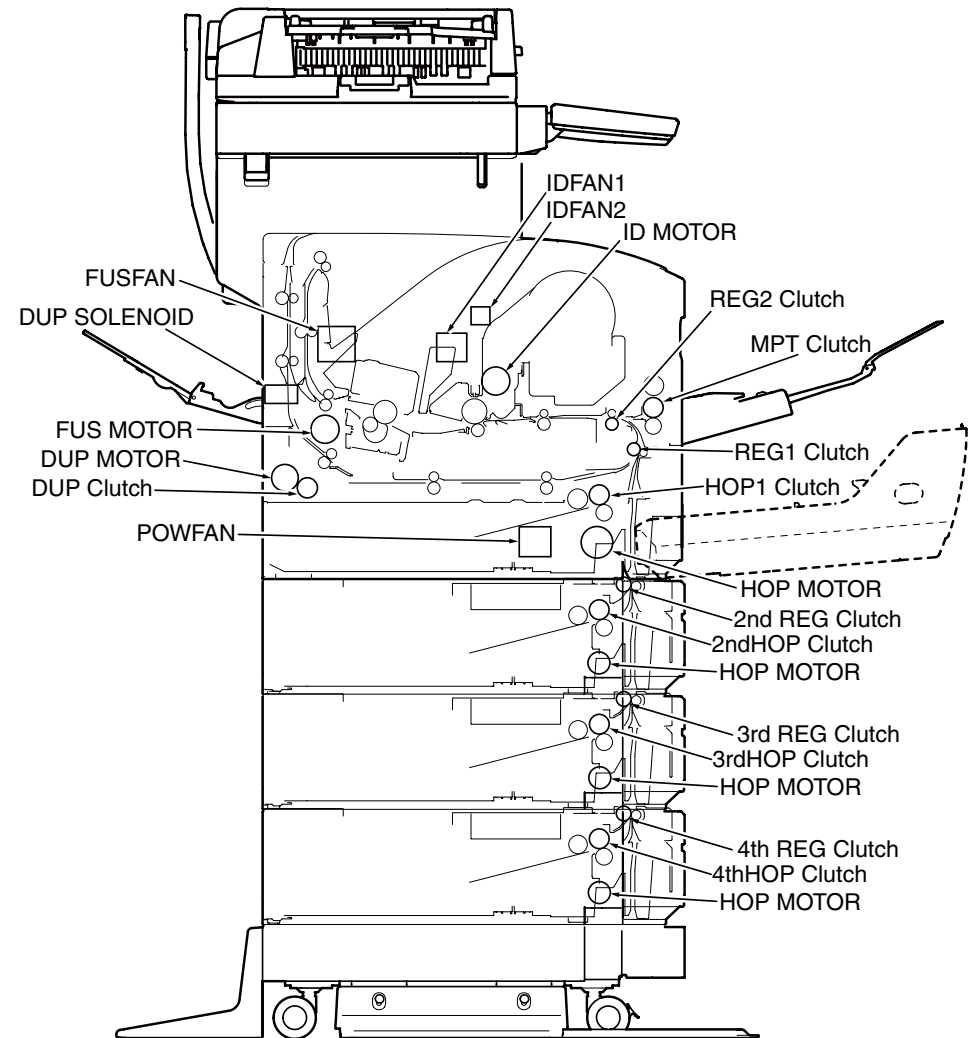

Figure 4-2
3. Pressing the [6] key starts the test. The unit name starts flashing and the corresponding unit is activated for 10 seconds. (Refer to Figure 4-2.)